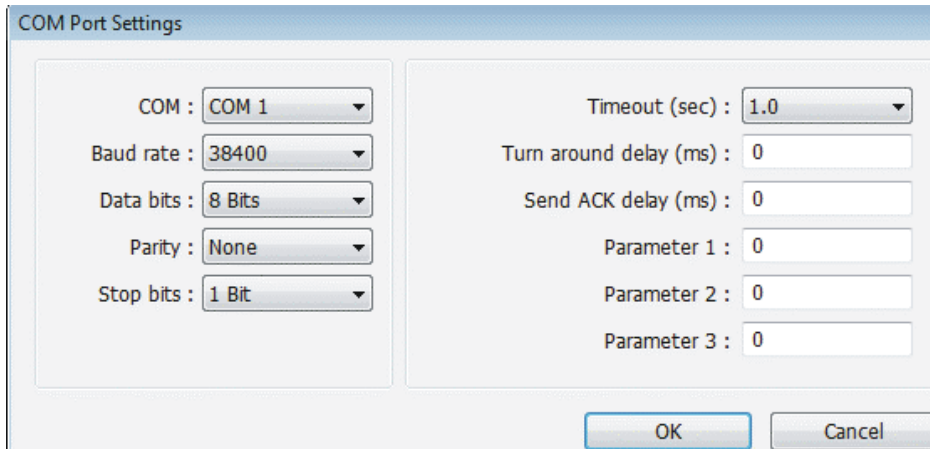

Figure 2: HMI Baud Rate Configuration in EBPRO
5. Click on the “Settings” button beside the COM field to select the HMI COM port being used and to configure the baud settings. A new window will open where you need to select the COM port and set the baud rate, data bits, parity, and stop bits so that they match what is set in the PLC. The default baud settings for the PLC are 38400, 8 data bits, no parity, and 1 stop bit. Refer to Figure 2 below. For the MT6070iE, choose COM1 since that is the only option.